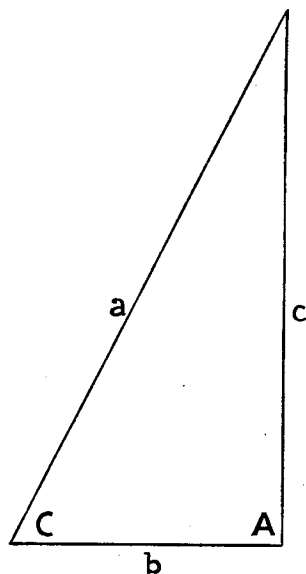

Fig. 2
The geometrical basis of the principle is noted in Fig. 2. The base of the triangle *b* is the distance between centres of M1 and M2 (or P and S). Angle A is a right angle while the other angle at the base (C) can be measured.